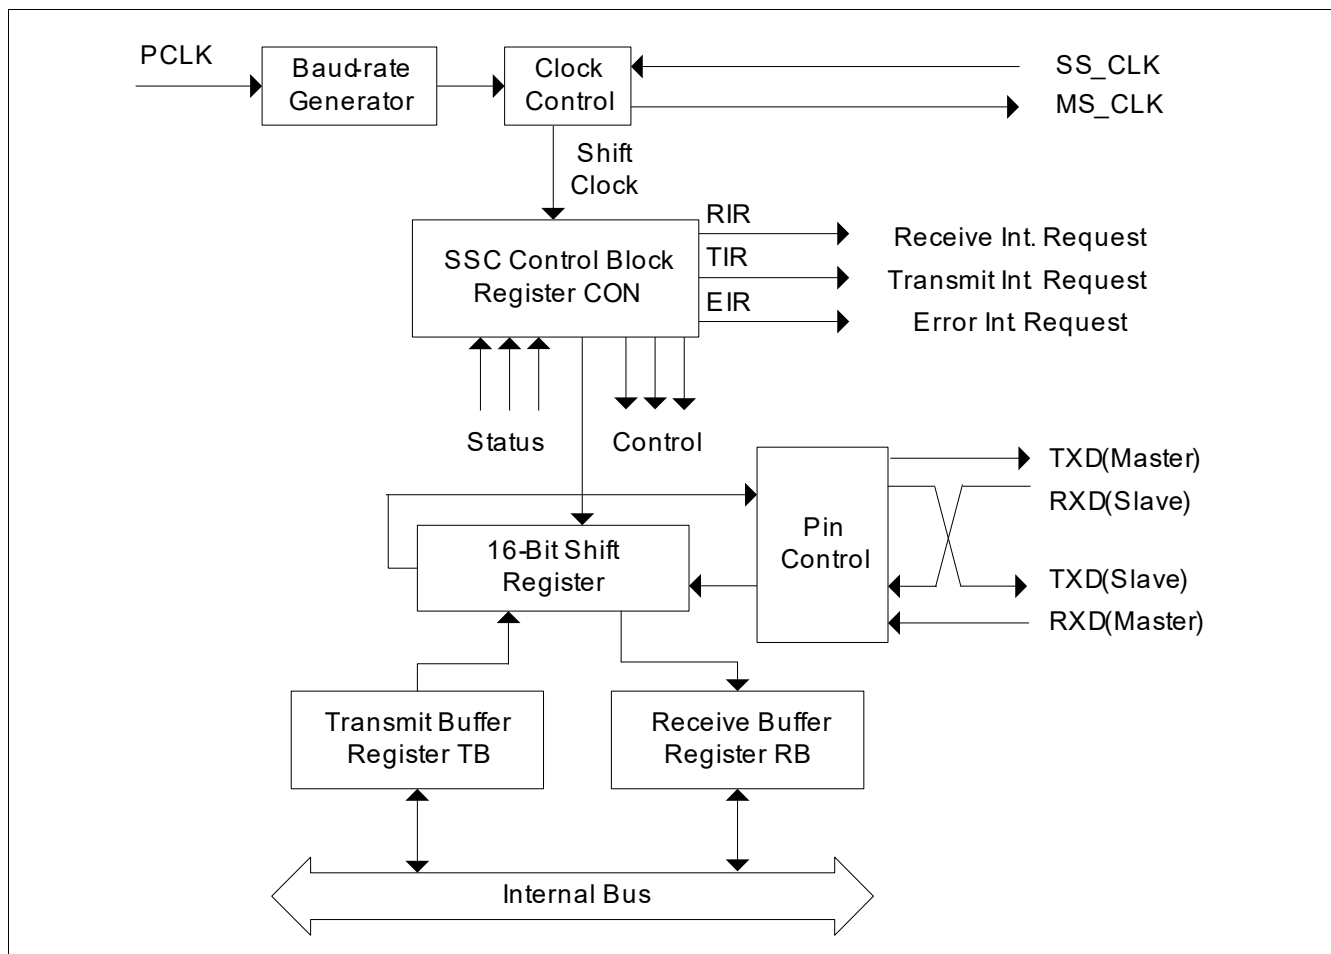
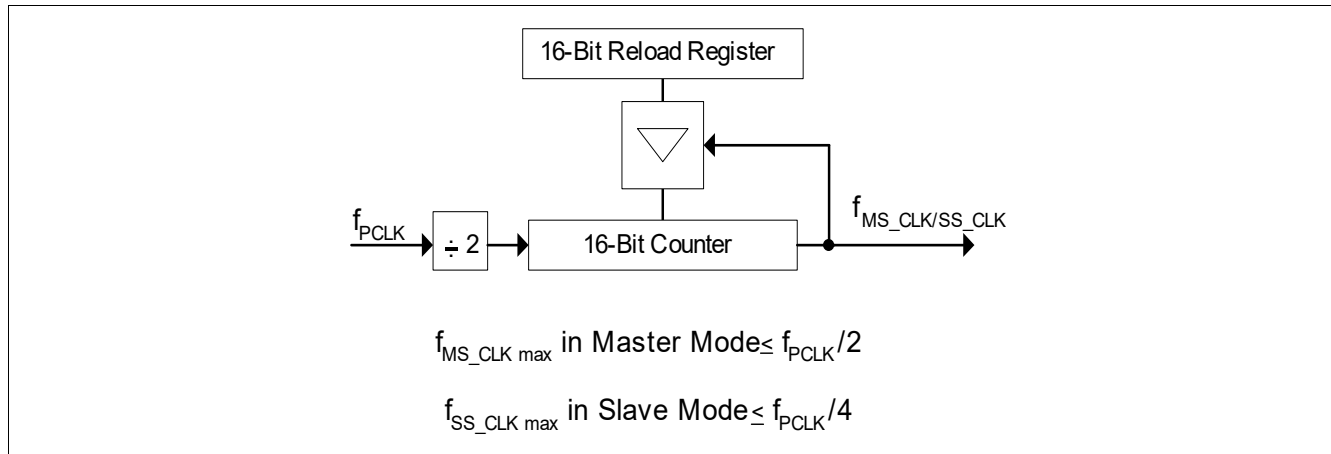

Figure 182 Synchronous Serial Channel SSC Block Diagram
Figure 186 SSC Baud-rate Generator
The shift register of the SSC is connected to both the transmit lines and the receive lines via the pin control logic (see block diagram in Figure 182). Transmission and reception of serial data are synchronized and take place at the same time, i.e. the same number of transmitted bits is also received. Transmit data is written into the Transmit Buffer (TB) and is moved to the shift register as soon as this is empty. An SSC master (CON.MS = 1) immediately begins transmitting, while an SSC slave (CON.MS = 0) will wait for an active shift clock. When the transfer starts, the busy flag CON.BSY is set and the Transmit Interrupt Request line TIR will be activated to indicate that register TB may be reloaded again. When the programmed number of bits (2 ... 16) has been transferred, the contents of the shift register are moved to the Receive Buffer RB and the Receive Interrupt Request line RIR will be activated. If no further transfer is to take place (TB is empty), CON.BSY will be cleared at the same time. Software should not modify CON.BSY, as this flag is hardware controlled.
The serial channel SSC has its own dedicated 16-bit baud-rate generator with 16-bit reload capability, allowing baud rate generation independent of the timers. In addition to Figure 182, Figure 186 shows the baud-rate generator of the SSC in more detail.
represents the contents of the reload register, taken as an unsigned 16-bit integer, while baud rate is equal to $f_{\text{MS_CLK/SS_CLK}}$ as shown in Figure 186.